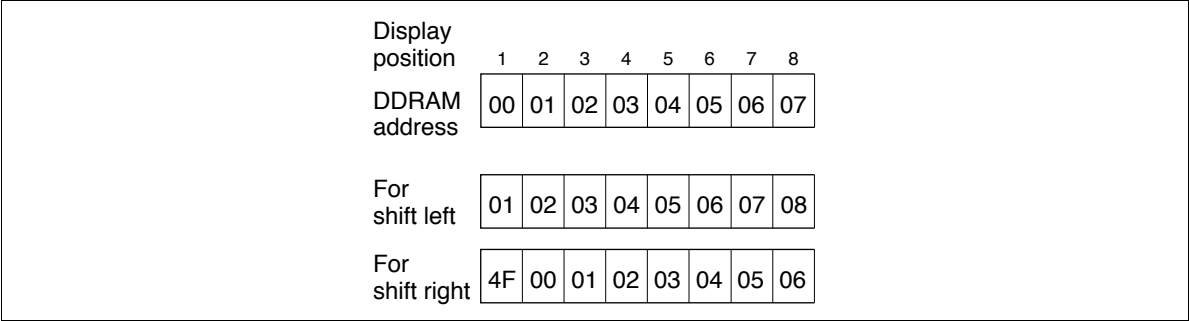

Figure 3 1-Line by 8-Character Display Example
- When there are fewer than 80 display characters, the display begins at the head position. For example, if using only the HD44780, 8 characters are displayed. See Figure 3.
- When the display shift operation is performed, the DDRAM address shifts. See Figure 3.